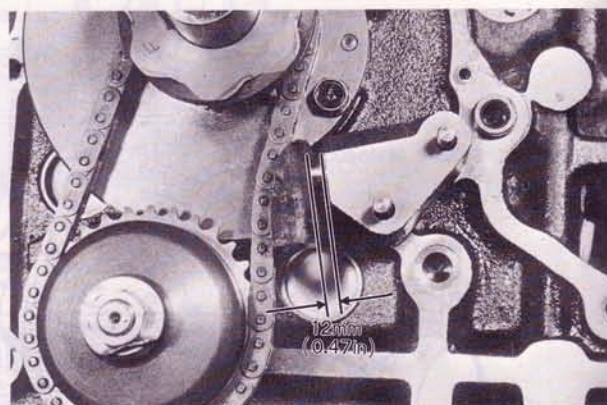

Fig. 2-10 Checking chain adjuster
1. Check the amount of protrusion of the chain adjuster, as shown in Fig. 2-10. If the protrusion exceeds **12 mm (0.47 in)**, replace the adjuster or chain.